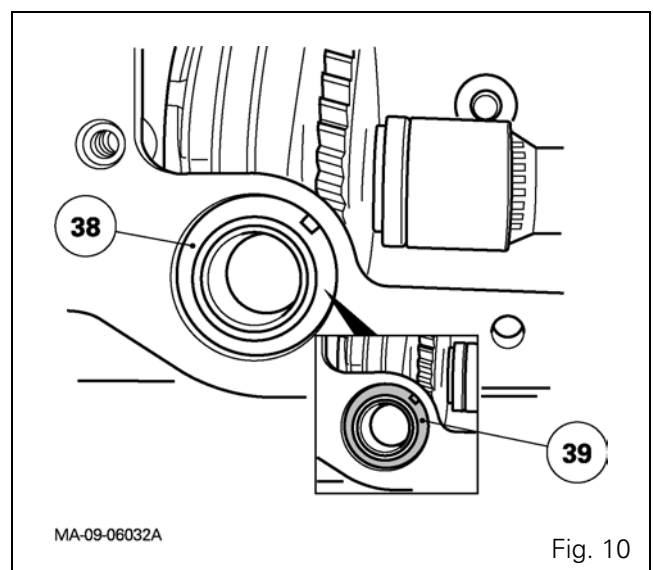

Fig. 10
- 18.** Fit and position the suction pipe (38) (Fig. 10), with its notch along the axis of the pin. Put in place seal (39).